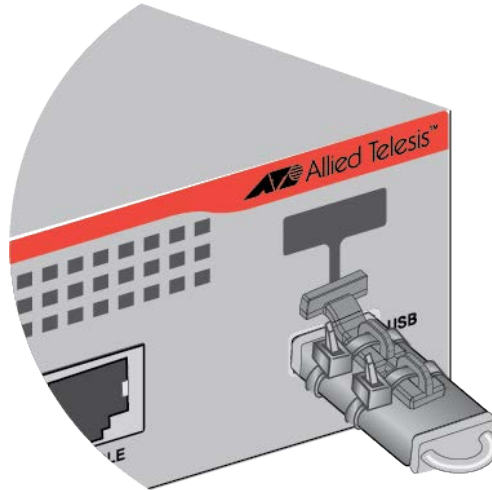

Figure 63. Securing the USB Device with Two Twist Ties
7. Repeat with the second twist tie. Refer to Figure 63 on page 102.